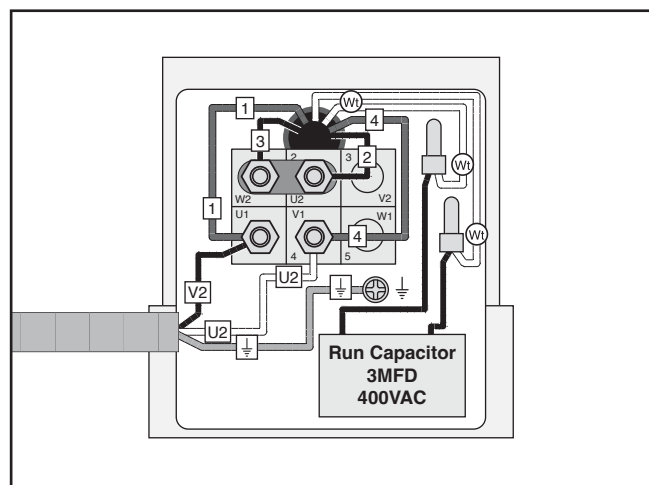

Figure 13. Pump motor wired for 230V.
13. Rotate remaining jumper across W2 and U2 terminals and secure, then re-install (2) remaining terminal nuts (see **Figure 13**).